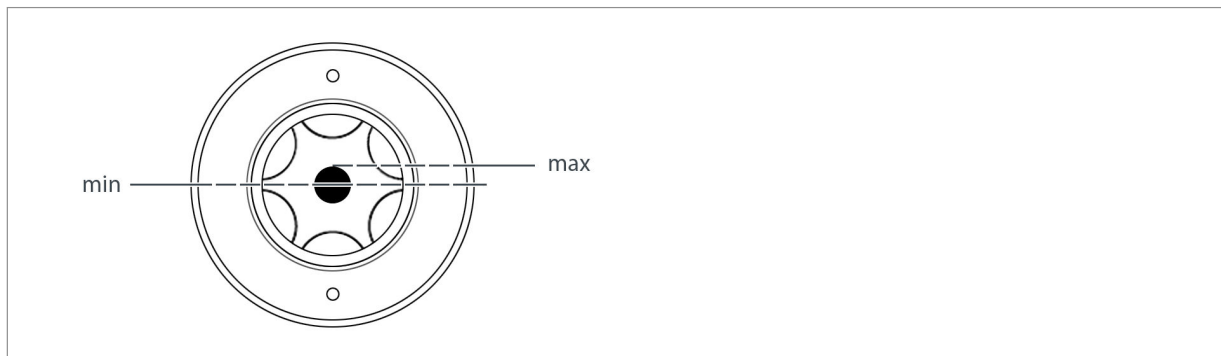

Fig. 25: Oil sight glass on bearing casing
4. ➔ Fill bearing casing with lubricating oil until the oil level in the oil sight glass is within the specified limits (Fig. 25).